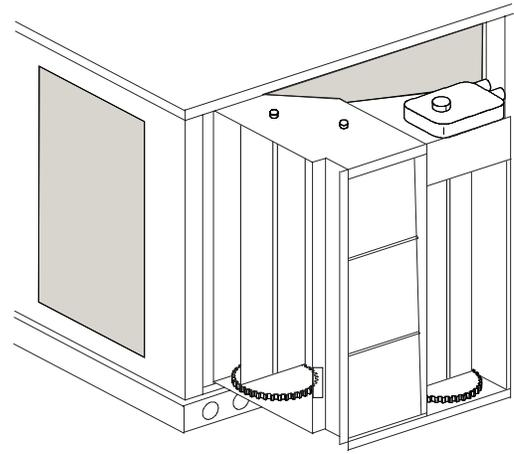

Fig. 4 - EconoMi\$er X Positioned for Installation in Unit
- Set the EconoMi\$er X upright. (See Fig. 4.)